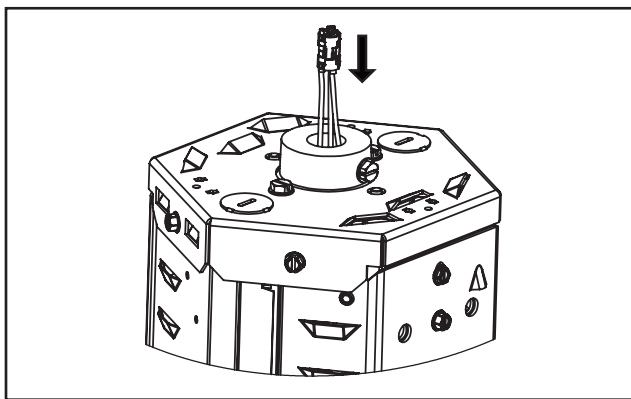

Figure 1.
1. Push wires into fixture enclosure. (Figure 1.)